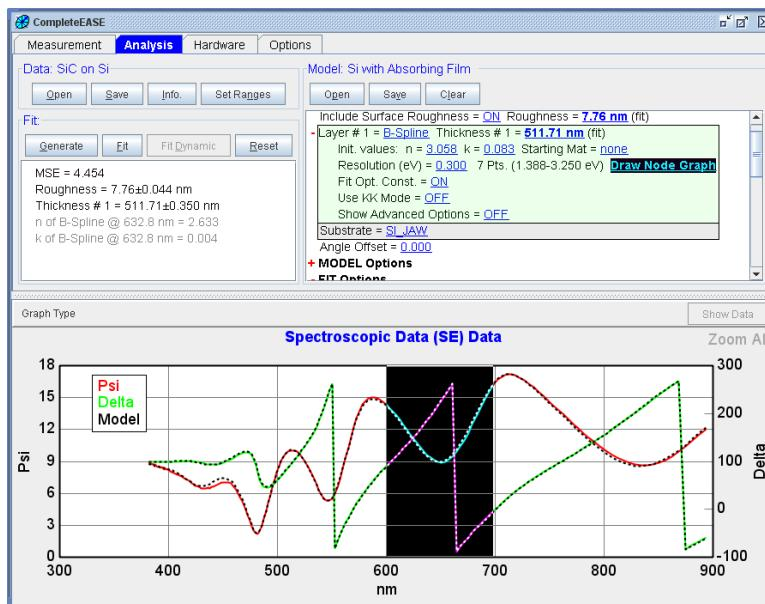

Figure 4-23. Range-selecting wavelengths between 600 and 700nm.
1. Range-select 600-700nm using the mouse (Figure 4-23).